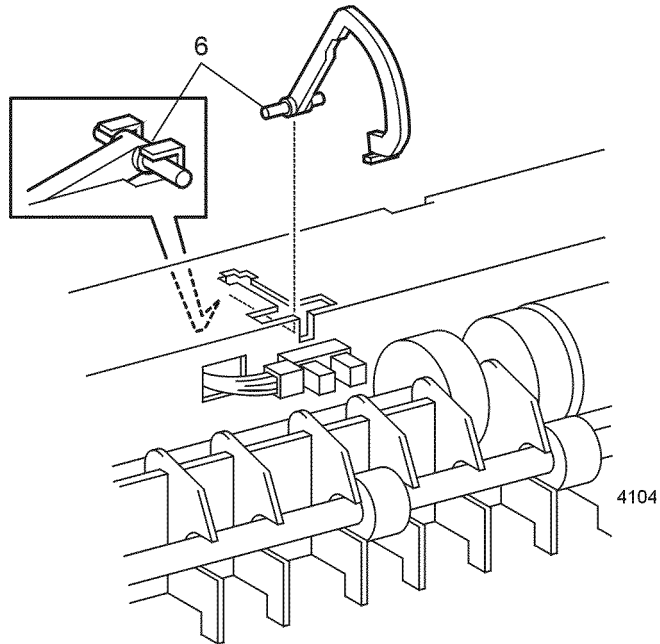

Figure 1 No Paper Actuator
6. Remove the actuator from the Feeder Chute (Figure 1). (A small screwdriver may be used to pry the actuator free of the retaining clips.